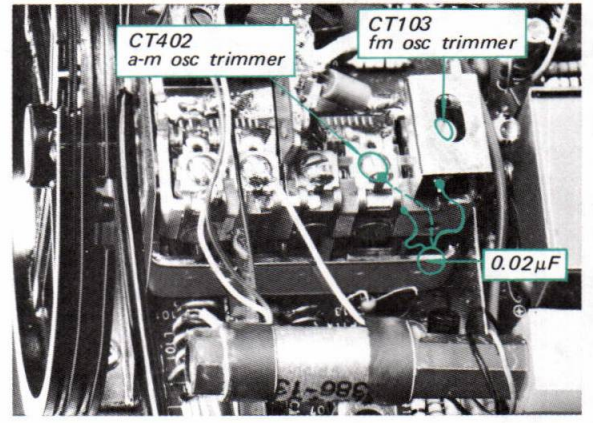

Fig. 3-2. Interruption of fm or a-m local oscillator
**Note:** Two methods of i-f discriminator alignment are available, sweep generator alignment and signal generator alignment. You can use either of them. In either case, the local oscillator should be killed. To stop the local oscillator's operation, remove the shield cover over the local oscillator capacitor, if necessary, and then shunt the oscillator capacitor with a 0.02μF capacitor. See Fig. 3-2.